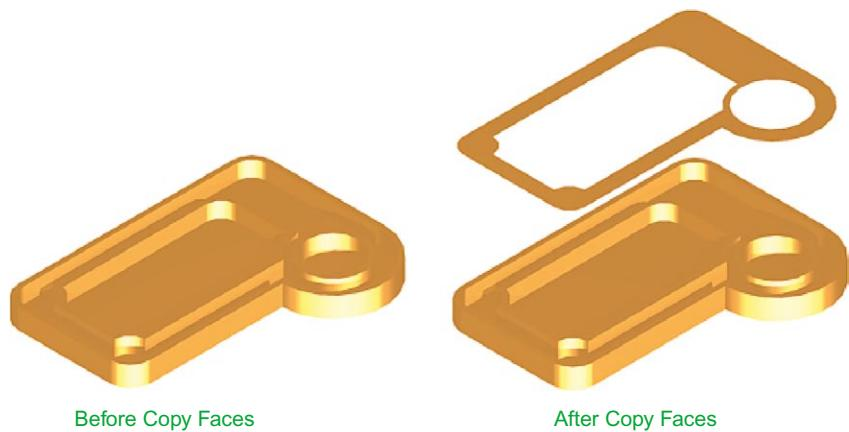

Fig. 18.10 Sixth example – **Copy faces tool**
Sixth example – Copy faces tool (Fig. 18.10)
3. Add lights and a material to the 3D model and its copied face and render (Fig. 18.10).